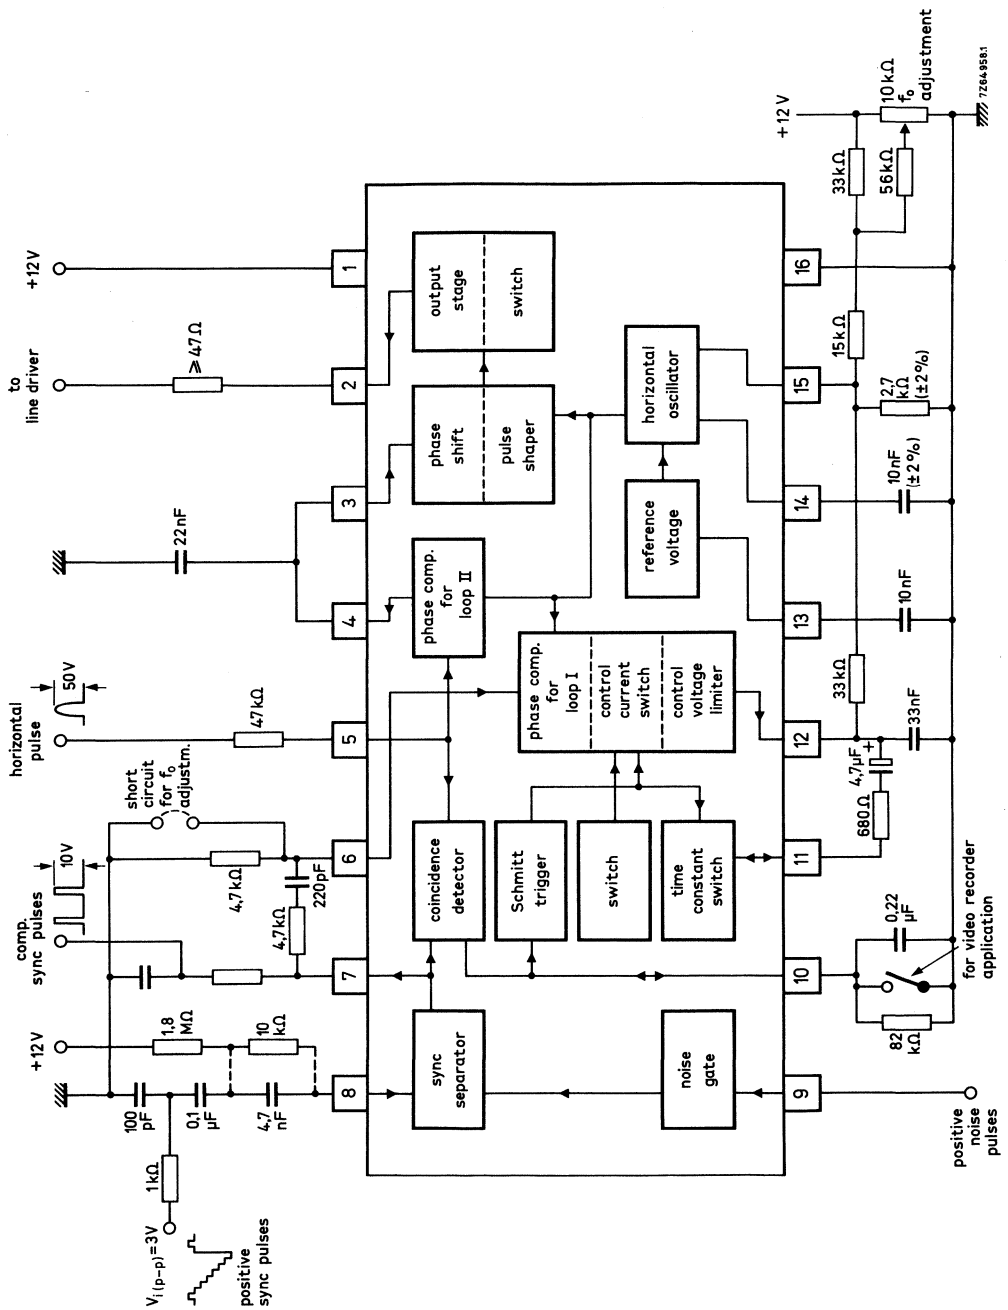

Fig. 1 Block diagram and application information.
**CHARACTERISTICS**At V1-16 = 12 V; Tamb = 25 °C. Measured in circuit of Fig. 1 (CCIR standard).